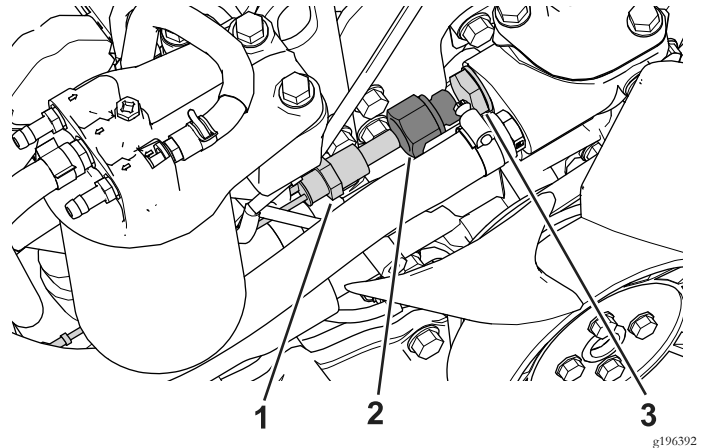

Figure 33
1. Locate the thermostat housing on the engine block and remove the engine-port plug (Figure 33).